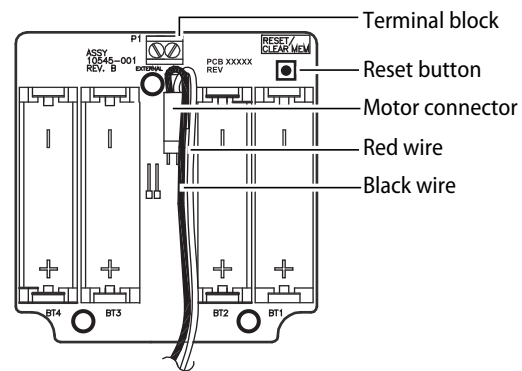
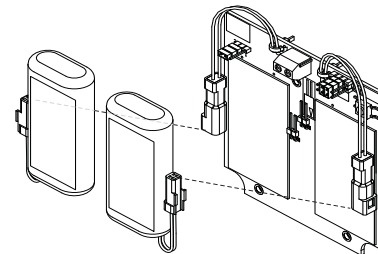

Figure 11 Using the reset button
Figure 12 Weatherized battery packs
- 3 Install batteries with proper polarity as shown in Figure 11. (For weatherized battery packs, simply connect the wires from the battery pack to the circuit board as shown in Figure 12.)
- 4 Press and hold the reset button on the PC board (as shown in Figure 11) until the green light on the keypad flashes (about three seconds), then release the button. If the green light does not flash see "Troubleshooting" on page 10.
If the mechanism does not unlock, remove the battery cover and check for proper orientation and seating of the batteries and motor connector. Ensure that wires are not pinched. Reset the electronics by pressing and holding the reset button on the circuit board until the light flashes green (approx three seconds), then release. See Figure 12.